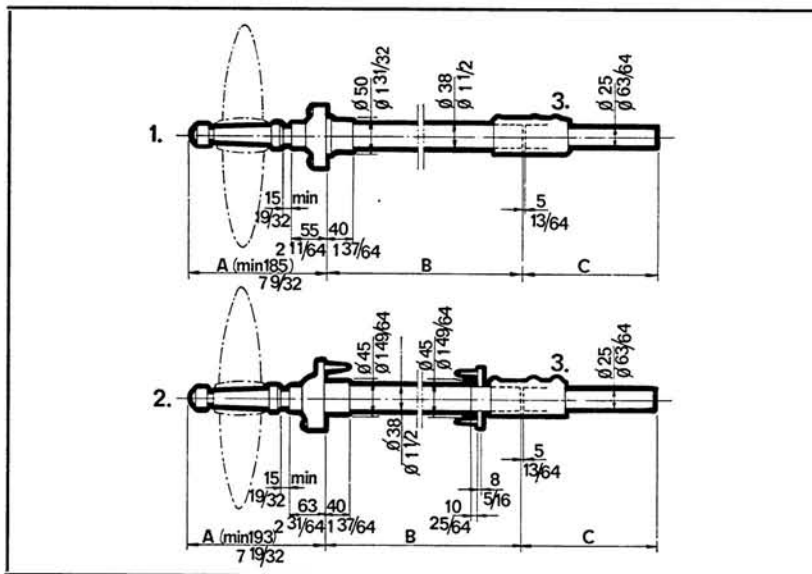

Fig. 21 Propeller device
ALBIN MOTOR AB stocks a new type of propeller equipment which requires lubricating (use semi-fluid grease, so-called "outboard grease") only once each season. Fig. 21 shows the type used for a plastic boat (1) and for a wooden boat (2). The effective bearing is lubricated from a lubricator which contains enough lubricant for operating a whole season. The aft bearing is water-lubricated and has a self-adjusting rubber sleeve which eliminates pressure on the edge of the bearing.